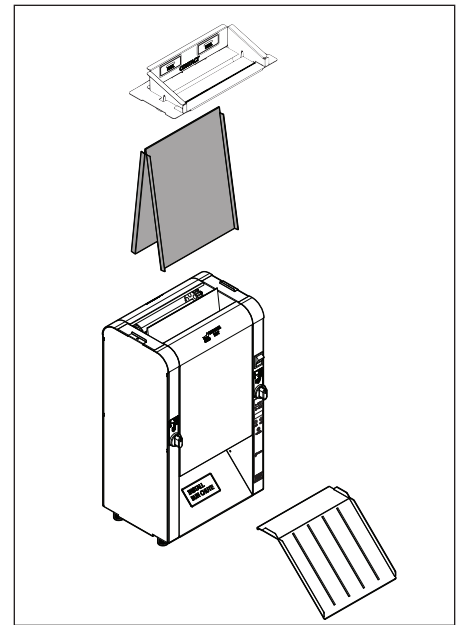

Figure 9. Remove Bun Feeder, Release Sheet, and Bun Chute
2. Remove the Bun Feeder, Release Sheet, and Bun Chute and set aside (Figure 9).
7. Clean and sanitize the front and rear Conveyor Belt Chain with a green scrub pad sprayed with Super contact Cleaner solution. Wipe the links of the Conveyor Belt Chain firmly from side to side until they are completely free of residue and debris (Figure 9). Wipe the Chains with a clean sanitizer soaked towel.
2. Put on heat resistant gloves. Remove the Bun Feeder, Release Sheet, and Bun Chute (Figure 9). Set these item aside.